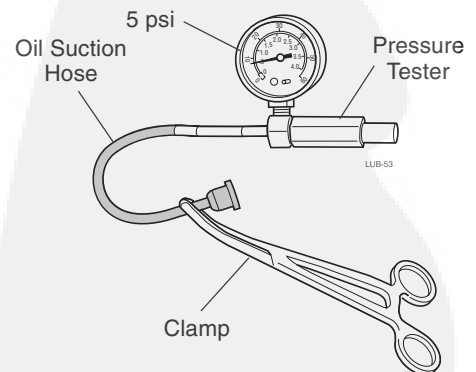

Figure 11.9 Leak-testing the Oil Suction Tube
- Gently stretch the oil suction tube, and discard any tube showing evidence of hardening, softening, or other deterioration. Connect a Shindaiwa pressure tester p/n 99909-93 to the inlet (filter) end of the suction tube. Use a tubing clamp or suitable plug to block the opposite end of the tube, and then pressure-test for leaks to a maximum of 5 psi (Figure 11.9).